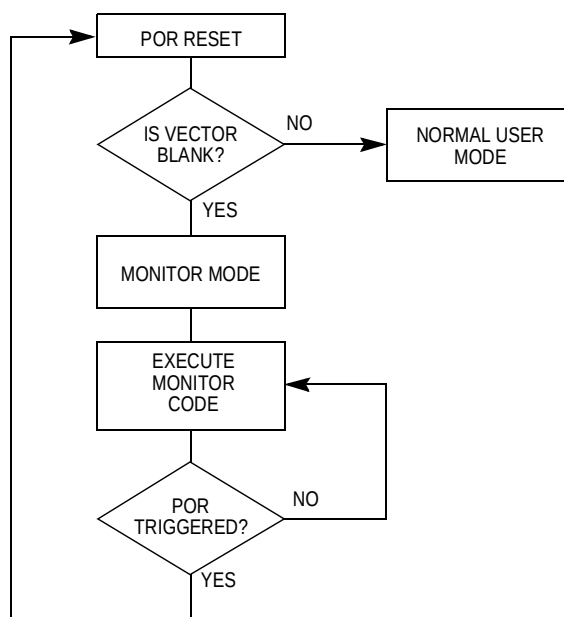

**Figure 9-4. Low-Voltage Monitor Mode Entry Flowchart**
**Figure 9-4** shows a simplified diagram of the monitor mode entry when the reset vector is blank and just  $1 \times V_{\text{DD}}$  voltage is applied to the  $\overline{\text{IRQ}}$  pin. An external oscillator of 9.8304 MHz is required for a baud rate of 9600, as the internal bus frequency is automatically set to the external frequency divided by four. No external clock is required if  $\overline{\text{IRQ}} = 0$  since chip clock will be drive by internal clock generator.